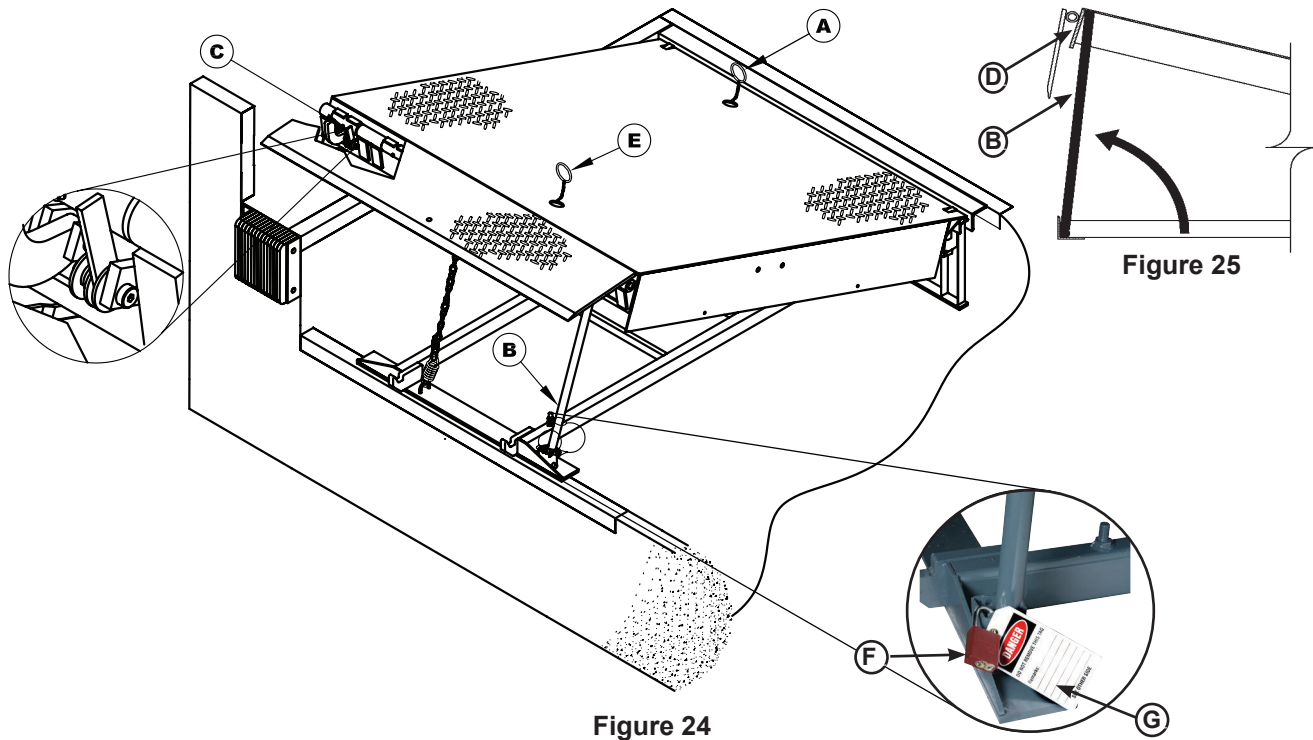

Figure 24
Whenever maintenance is to be performed under the dock leveler platform, support the platform with maintenance prop (B). Position the maintenance prop behind front header plate (D) while staying clear of the lip. Lock the maintenance prop in the service (upright) position using an OSHA approved lockout device* (F) and tag out device* (G). See Figures 24 and 25.